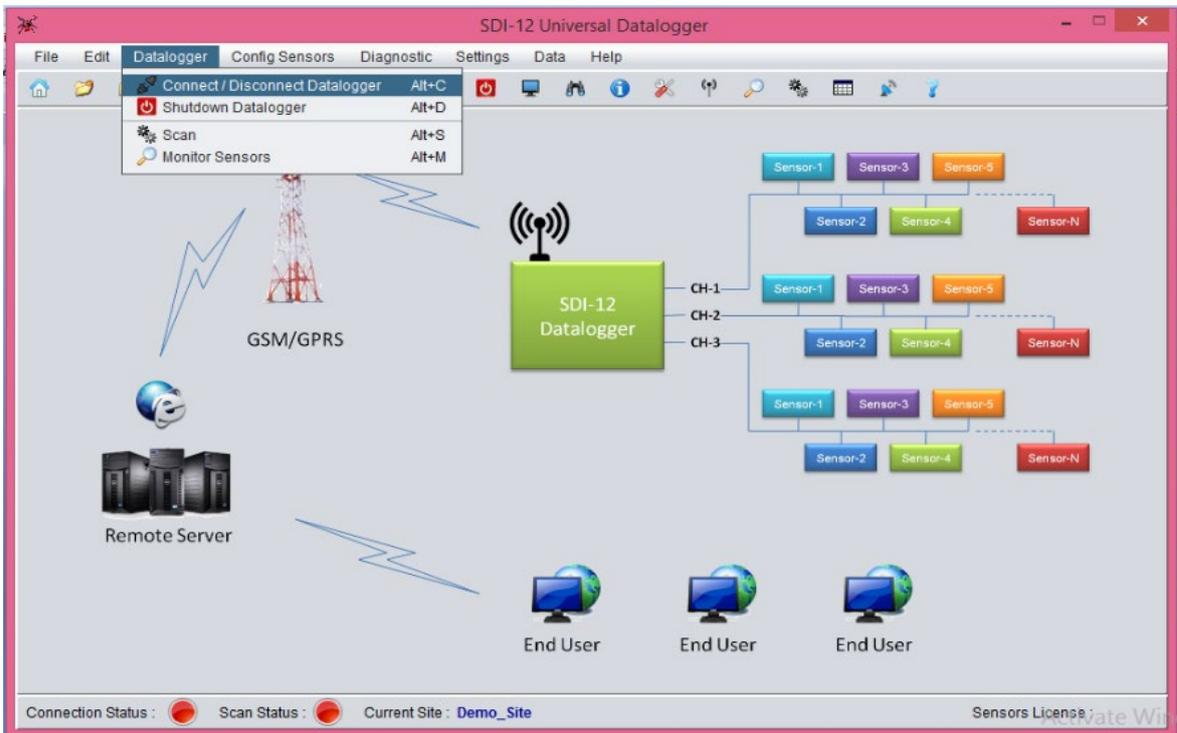

Figure 7-3 Datalogger menu of EDSL-30UNI Configuration Manger Software
- Then click "Datalogger" followed by "Connect/Disconnect Datalogger" as shown in figure 7-3 below.